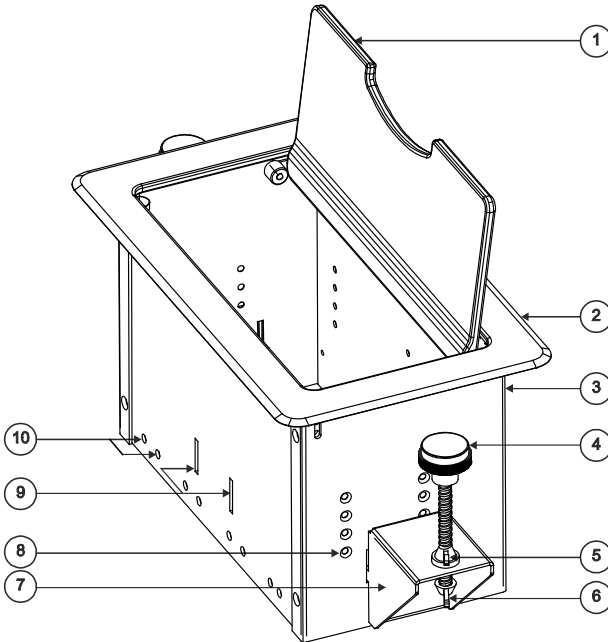

Figure 2: TBUS-4xl Enclosure Top View
3. Take the support brackets under the table and place them into the support bracket grooves on both sides of the unit (see Figure 2, item 7).